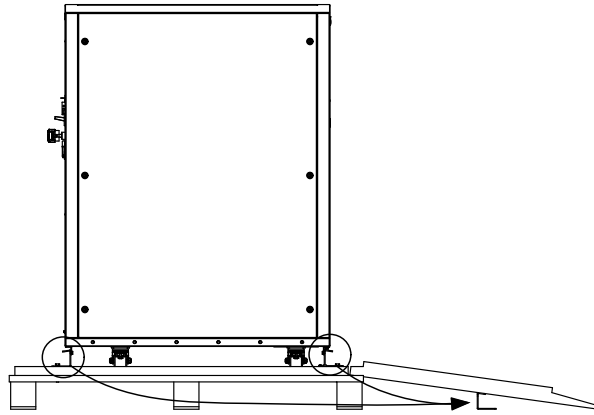

Figure 3-4 Remove the brackets to support the ramp
(6) Remove the bracket that fasten the UPS to the pallet, and place them at the bottom of the ramp for supporting the ramp, as shown in Figure 3-4.